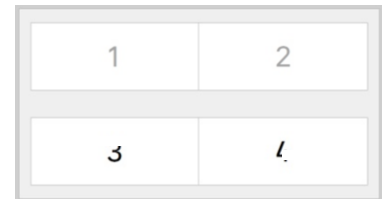

Fig. 3: Print-out faint and incomplete
- c) The labeling text is faint or has not been completely printed (Fig 3).